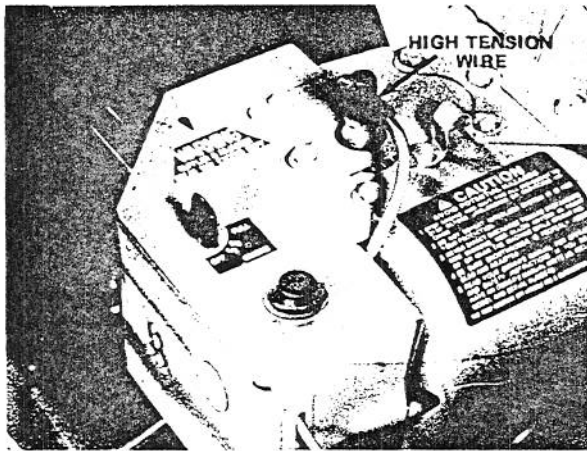

Figure 25
To prevent accidental starting of the engine while performing maintenance, rotate ignition key to off and remove it from the switch. Next, pull high tension wire off spark plug (Fig. 25) and make sure wire does not accidentally touch the plug.
1. Pull high tension wire (Fig. 25) off spark plug and make sure it does not contact the plug accidentally.
1. Drain gasoline from fuel tank. Next, remove high tension wire from spark plug and make sure it does not contact plug accidentally (Fig. 25).